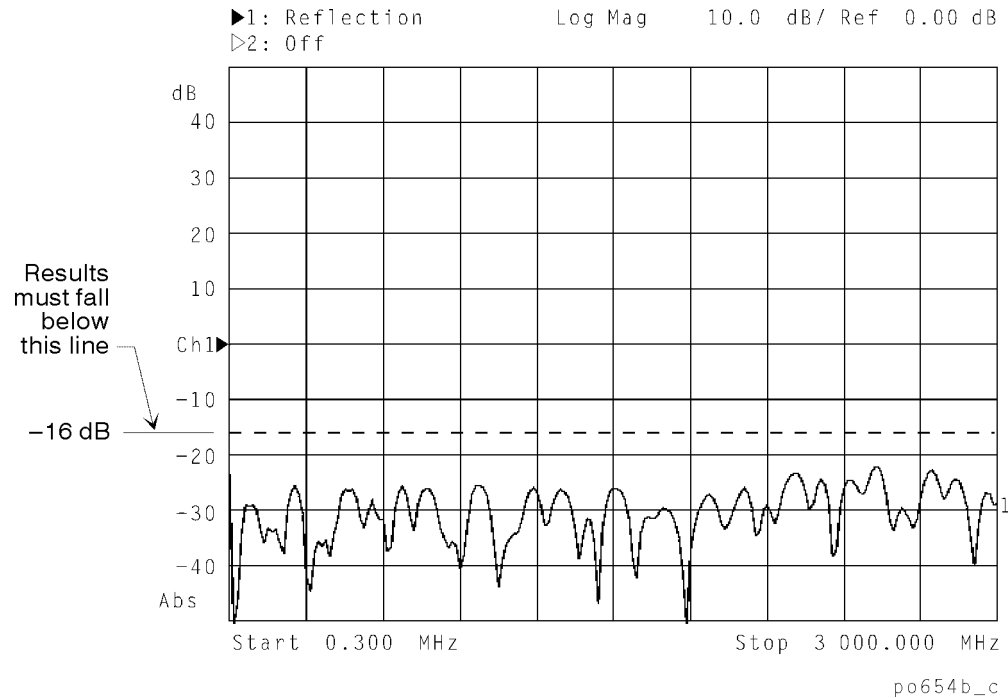

Figure 1-3. Typical HP 8713B/14B Reflection Measurement
3. Verify that the data trace falls completely below -16 dB. See Figure 1-3 for a typical HP 8713B/14B trace.